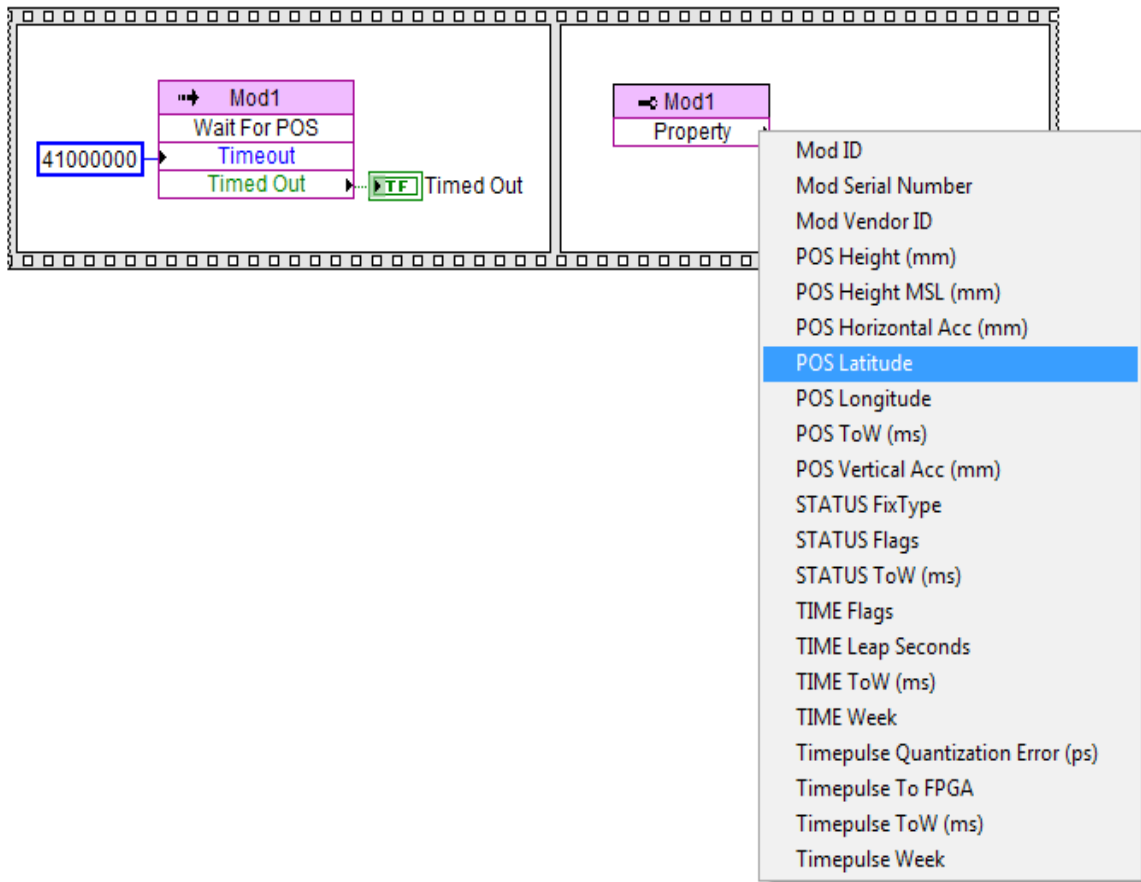

Fig. 9: Quick Start – Select property
- 17. Finally select the property to be executed from the list of available property for the selected item. For this tutorial, select the *POS Latitude* property as shown in figure 9.